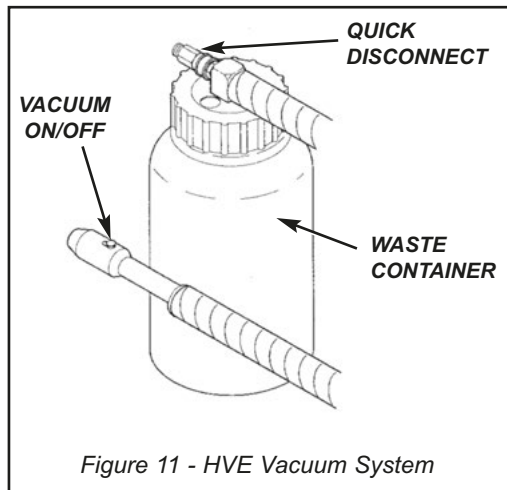

Figure 11 - HVE Vacuum System
8. **AA-21 HIGH VOLUME EVACUATOR ASSEMBLY** - The HVE assembly is an air powered, self contained oral evacuator system. It is supplied with a plastic waste container and a single high velocity hose. (Fig. 11)